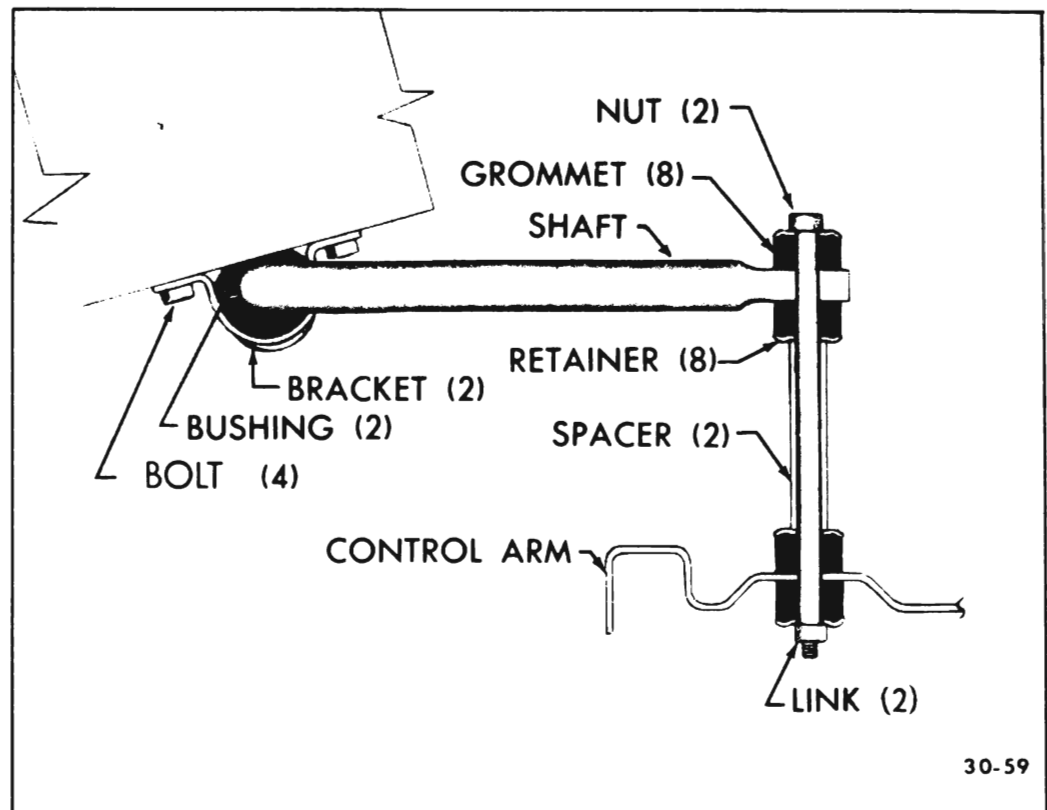

Figure 30-41 - Stabilizer Link Installation
10. Reinstall stabilizer link and grommets. See Figure 30-41.
and grommets. See Figure 30-41.